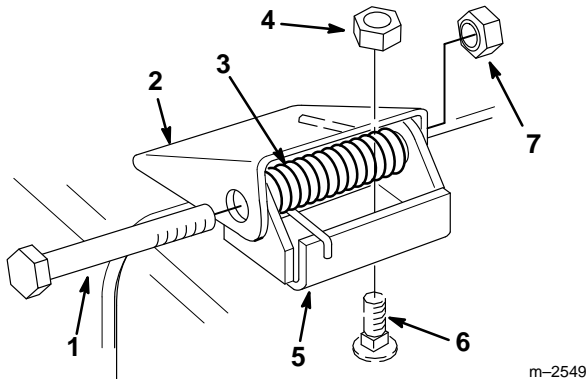

Figure 25
2. Remove the locknuts, bolts and springs holding the deflector mounts to the pivot brackets (Fig. 25).
3. If the pivot brackets need to be replaced, remove the carriage bolts and cone locknuts holding the old brackets to the top of the discharge opening, then install the replacement pivot brackets. Make sure the carriage bolt heads are on the inside of the cutting unit (Fig. 25).
4. Install the deflector mounts onto the pivot brackets with the bolts, springs and locknuts. Make sure the straight ends of the springs are positioned between the deflector mounts and the grass deflector (Fig. 25).
5. Tighten the locknuts until they contact the pivot brackets (Fig. 25).